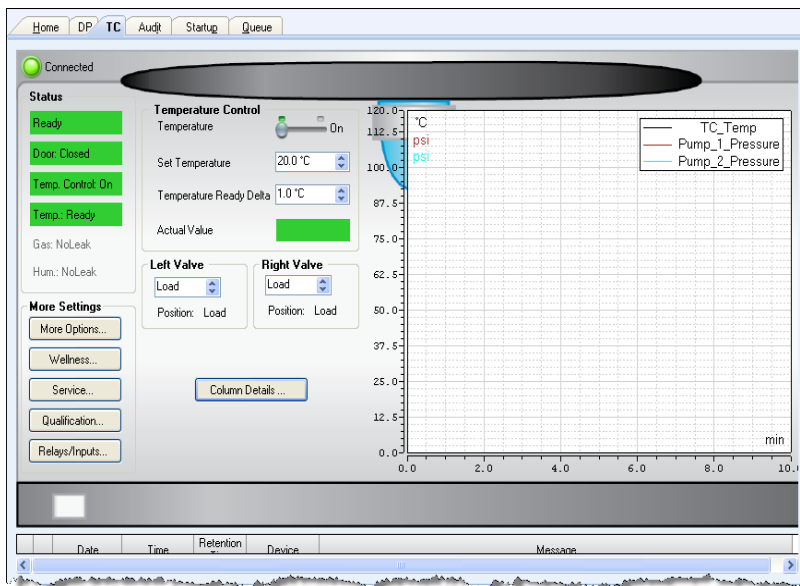

Figure 4-10. TC Panel (Chromeleon 7 Version Shown)
2. On the Chromeleon 7 ePanel Set or the Chromeleon 6.8 panel tabset, click the **TC** tab to display the **TC** panel (see Figure 4-10).